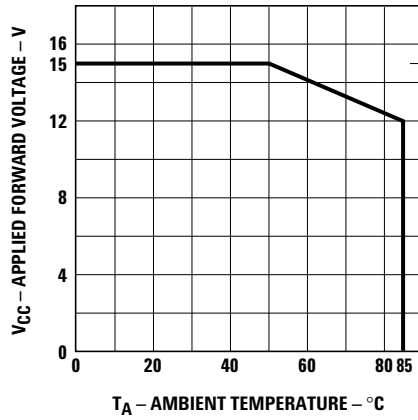

Figure 4. Maximum allowed applied forward voltage vs. ambient temperature  $R\theta_{JA} = 175^{\circ}\text{C/W}$ . 12 volt devices.
- Derate from  $T_A = 50^\circ\text{C}$  at 0.086 V/°C, see Figure 4.